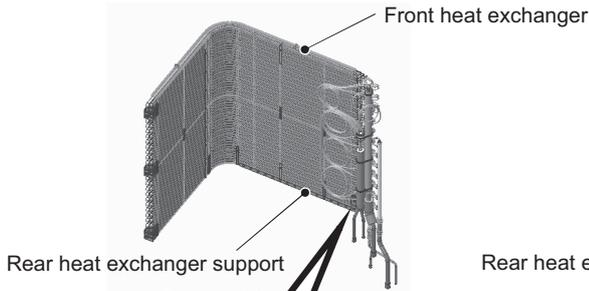

Figure 19
(21) After removing the front and the rear heat exchangers, dispose of the front and the rear heat exchanger supports. (See Figures 19 and 20.)
(22) After removing the heat exchangers, dispose of the front and the rear heat exchanger supports. (See Figures 19 and 20.) The front and the rear heat exchanger supports do not need to be installed. (The front and the rear heat exchanger supports are for suppressing vibration during transportation.)
(23) Re-place the front and the rear heat exchangers in the reverse order as they were removed. Re-place the components that were removed as they were.